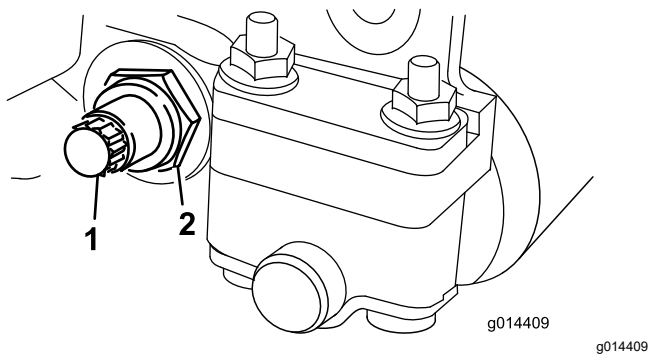

Figure 14
3. On each side of the machine, loosen the locknut securing the bedbar bolt (Figure 14).
- Remove each bedbar bolt allowing the bedbar to be pulled downward and removed from the cutting unit (Figure 14).